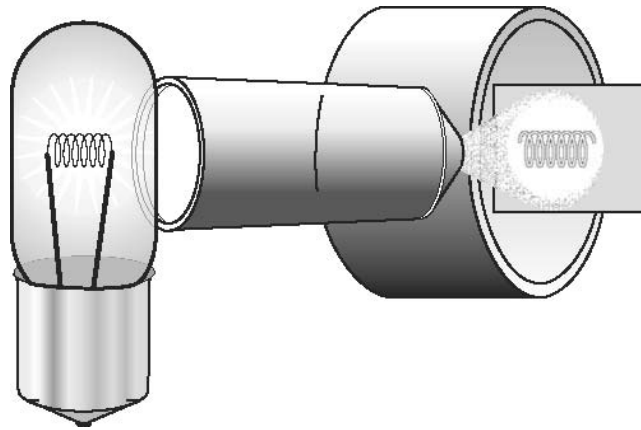

Figure E-1. Image of exciter lamp filament on white card
3. For stereo installations, remove the mono solar cell and place a white card about an inch away from the sound lens. The image of the exciter lamp filament should look like that shown in Figure E-1, next page.